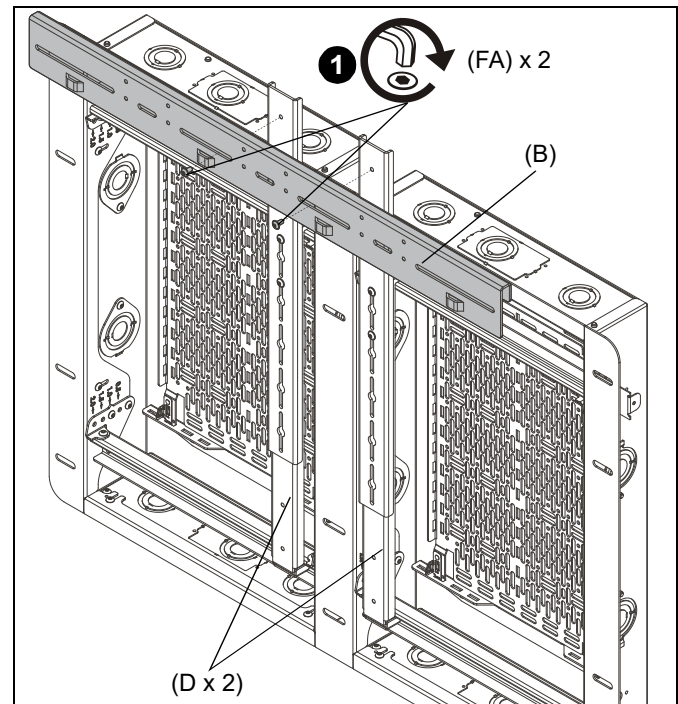

Figure 3
2. Use two #10-24 x 3/8" button head cap screws (FA) to secure horizontal adjustment bracket (B) to two macro height-adjustment brackets (D). (See Figure 3)